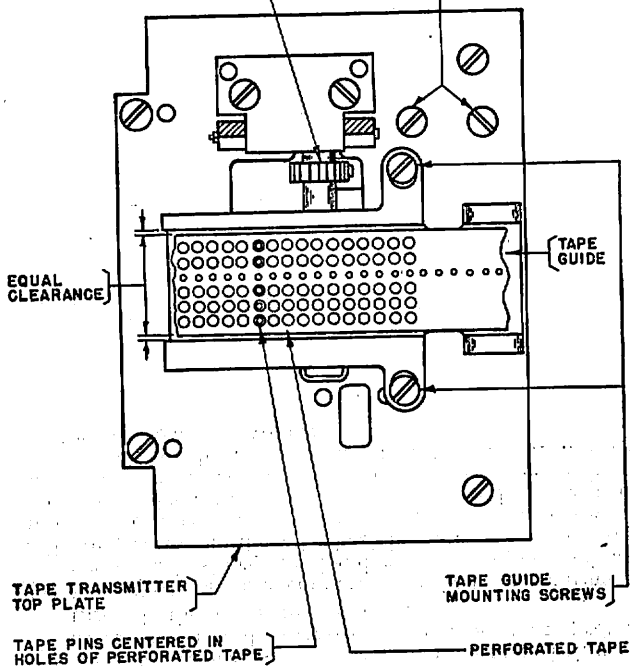

Fig. 9
4.19 **Tape guide** shall clear the edges of tape, leaving perforations properly centered, by approximately equal amounts, as in Fig. 9, when tape is engaged by feed wheel and operating lever is on high part of its cam. Gauge by eye.
4.20 **Feed wheel detent.** Tape perforations of tape freshly perforated with "letters" combination and checked for correct spacing with perforation gauge 95960M, shall center over tape pins, as in Fig. 9, when detent roller rests in the hollow between two ratchet teeth, and the right edges of the code perforations shall just clear the edges of the pins when the play in the tape is taken up to the left. Gauge by eye.